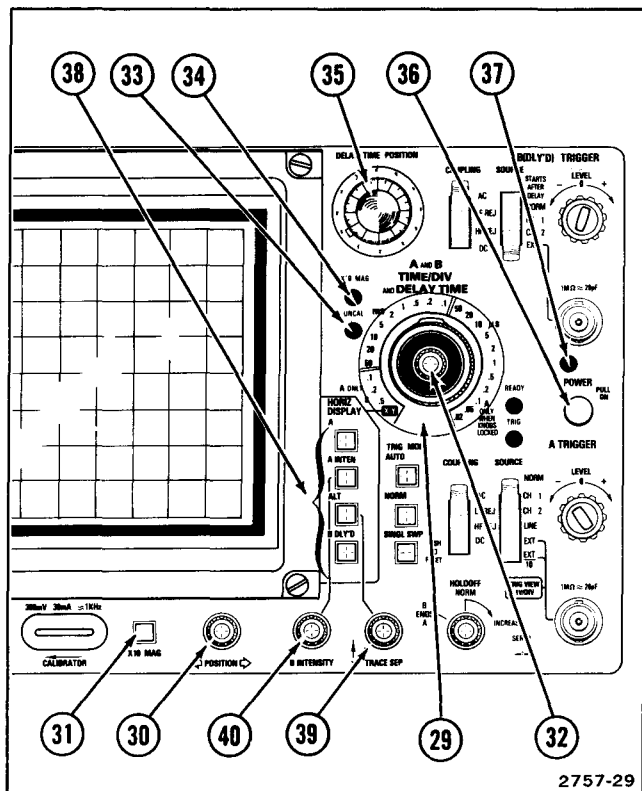

Figure 2-6. Horizontal and power connectors, controls, and indicators.
Refer to Figure 2-6 for location of items 29 through 40.